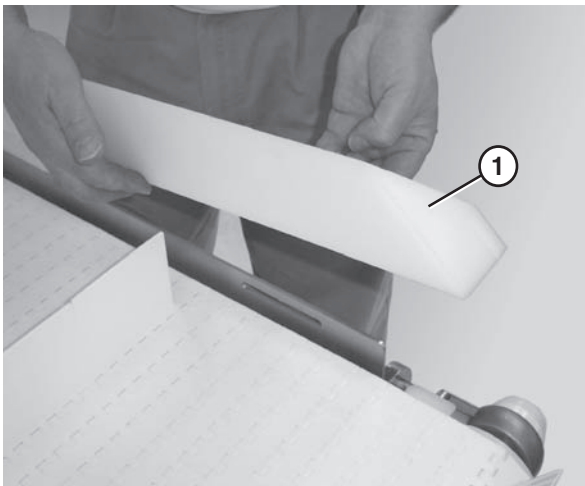

Figure 52
2. Remove the guide (Figure 52, item 1).